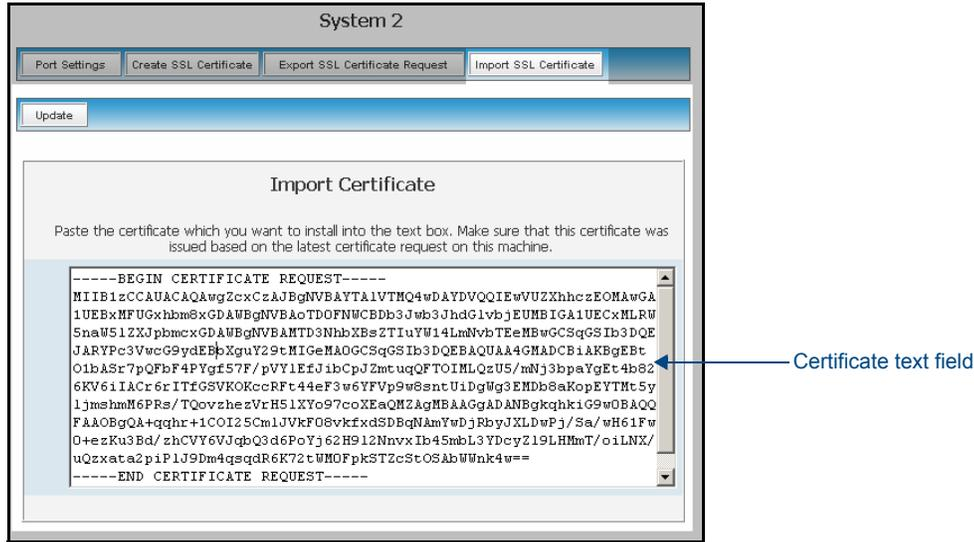

FIG. 53 Import SSL Certificate dialog
2. Navigate to the Server Certificate page by clicking **System Settings > Manage System > Server > Import SSL Certificate** to open the Import Certificate page (FIG. 53).